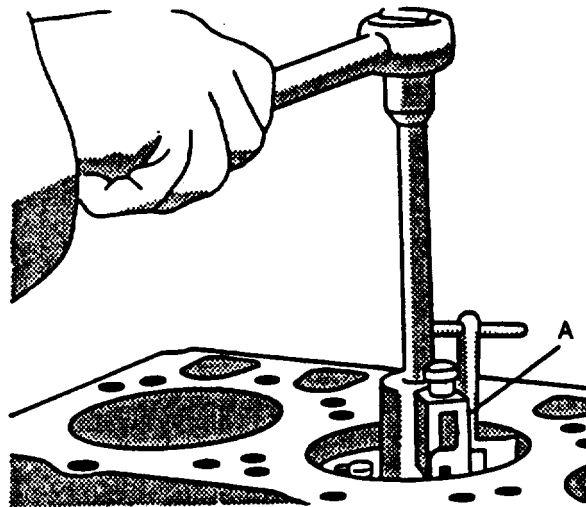

FIGURE 3-122. Removing Carbon From Cylinder Liner
- g. Remove carbon from liner bore with a scraper or reamer, refer to FIGURE 3-122. Use compressed air to remove loose material from cylinders.